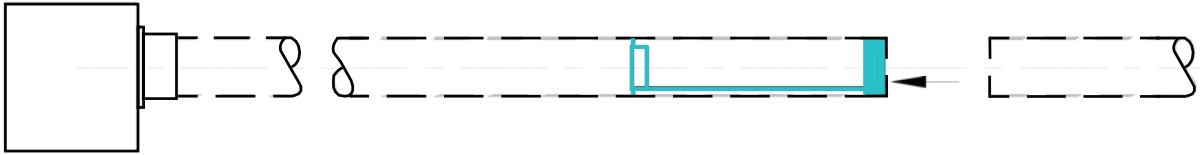

Figure 11. Burner Insert Installation
3. Install burner insert(s) as required (refer to Table 7 for applicability and quantity) into first emitter tube from where it is joined to second emitter tube as shown in Figure 11.